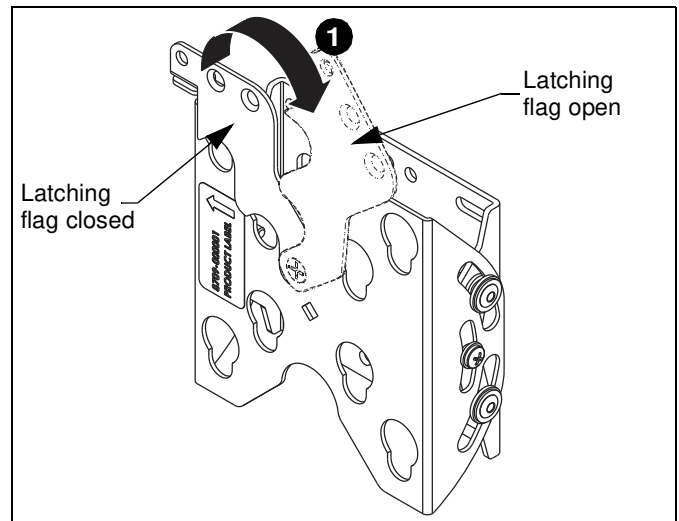

Figure 6
1. Open latching flag by rotating flag clockwise on FTR1U/FTR100 assembly (A). (See Figure 6)